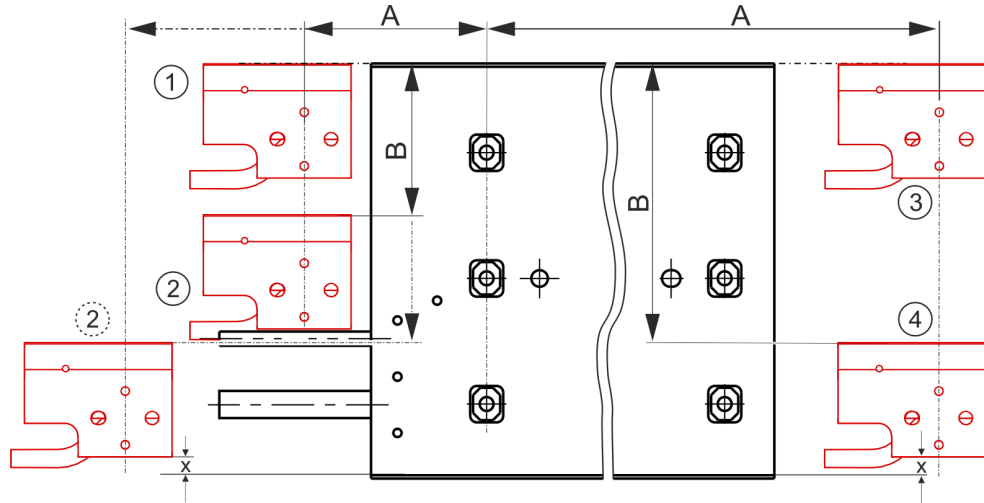

Fig. 134: Possible installation positions of the Hall unit
- B Side offset must not exceed the motor contour on the side (see Fig. 134)